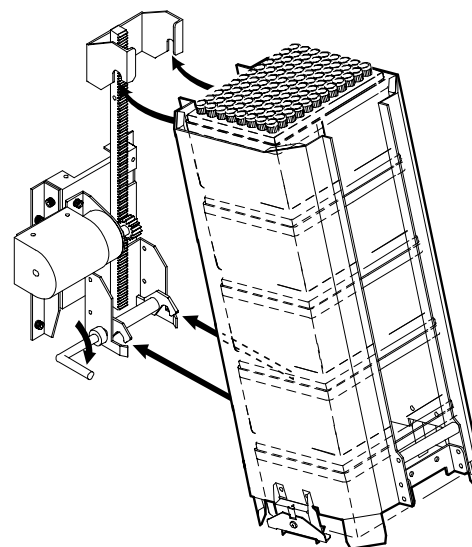

Fig. 7.3-3
- (3) Install the supply stacker (Fig.7.3-3).